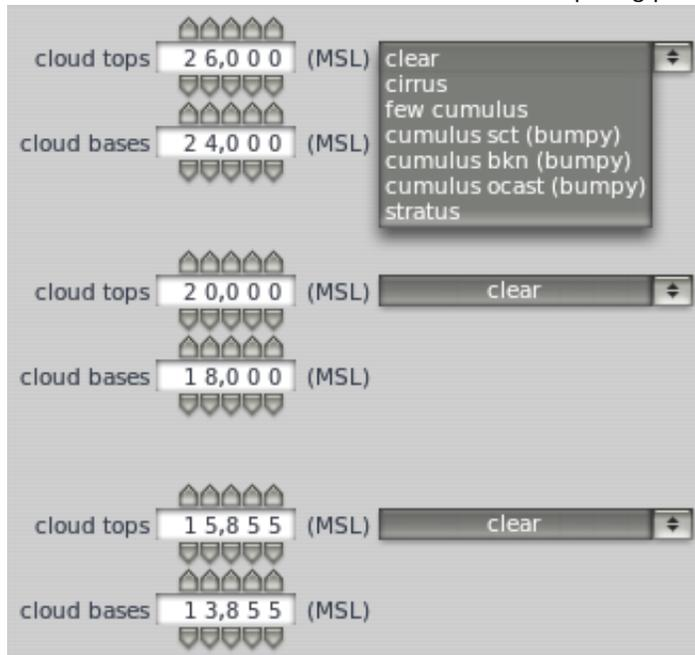

Figure 4.7: Setting the cloud coverage for the whole world
3. Using the three cloud drop-down menus (found in the upper left of the screen, and pictured in [\[Figure 4.7\]](#)), set the cloud types to “clear” or “cumulus ocast” for max frame rate. For a good frame rate, set them to “cirrus” or “stratus.” “Cumulus sct” or “cumulus bkn” take a lot of computing power to display.